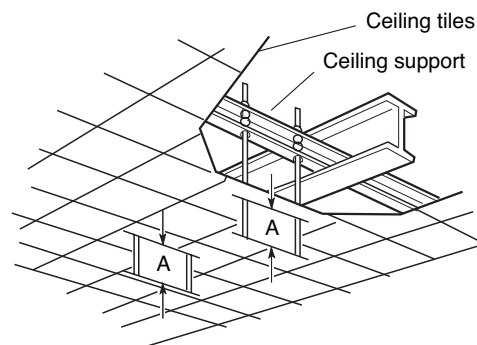
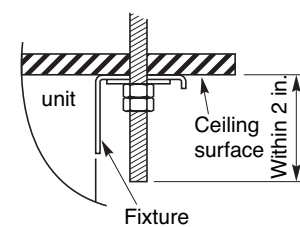

Fig. 3-76
Fig. 3-77
- (b) Use existing ceiling supports or construct a suitable support as shown in Fig. 3-76.
- (4) Screw in the suspension bolts, allowing them to protrude from the ceiling as shown in Fig. 3-76. The distance of each exposed bolt must be of equal length within 2 inches. (Fig. 3-77)